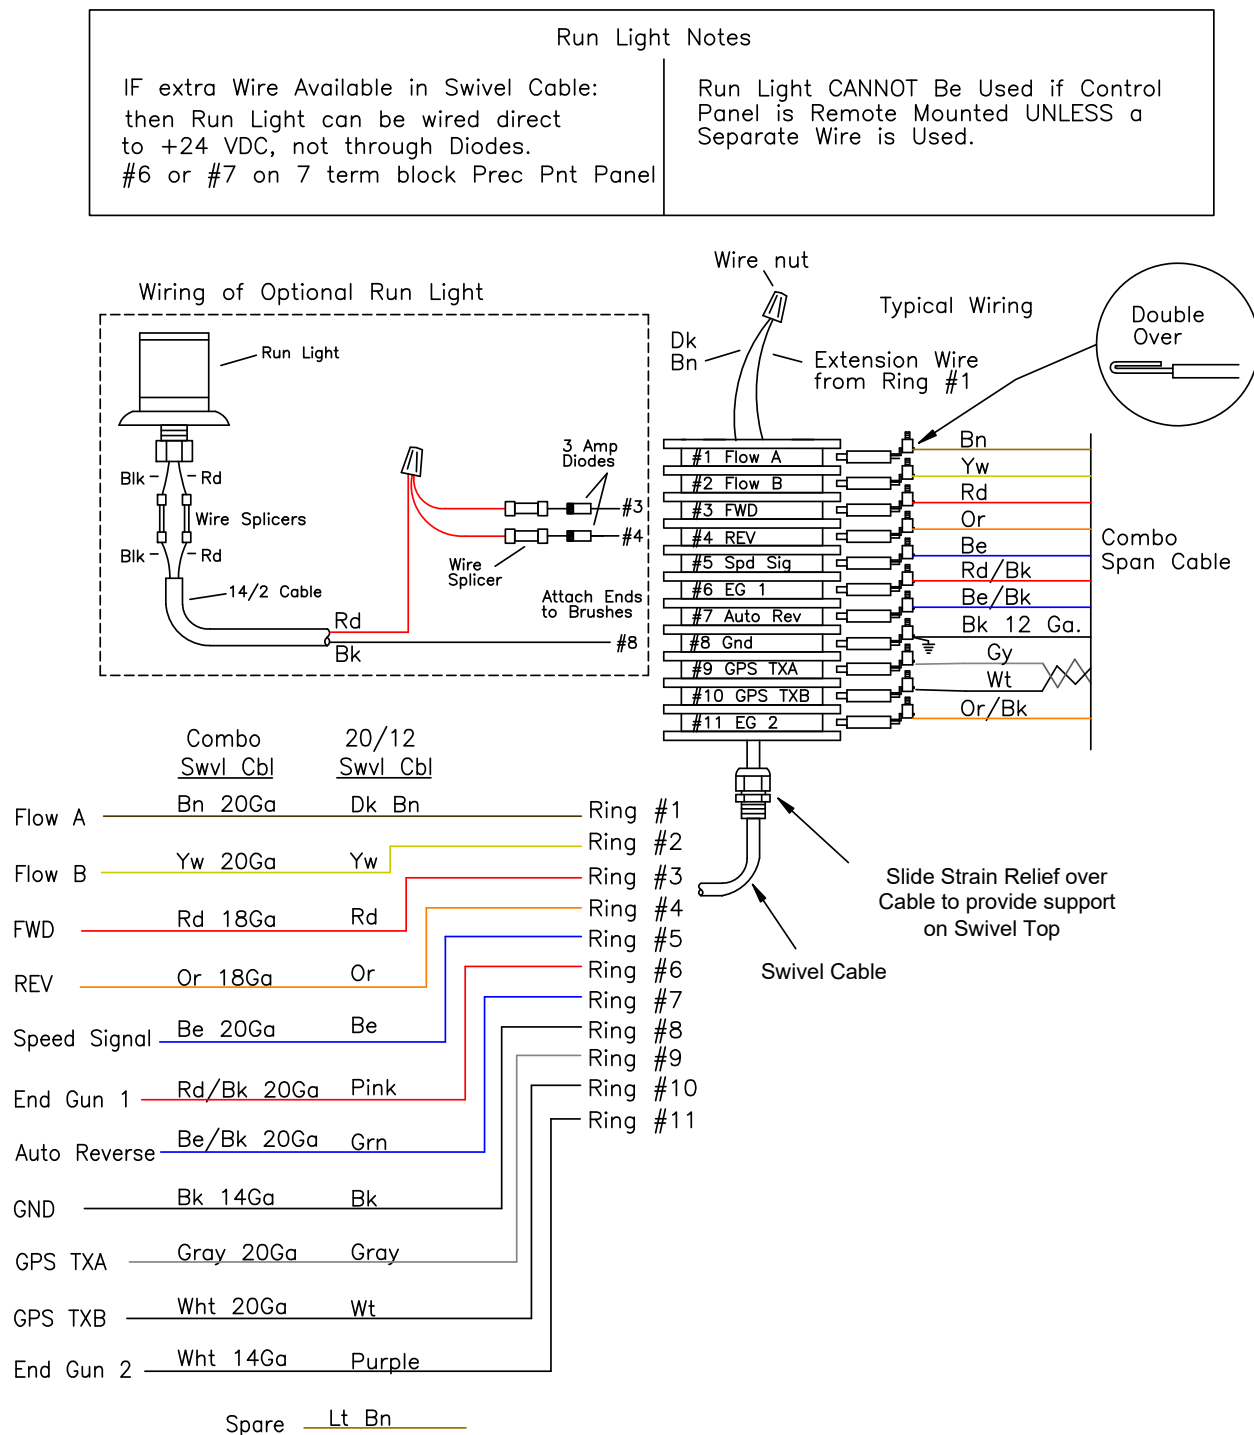

Figure 210. Collector Ring Wiring with GPS.
11.6 Collector Ring Wiring with GPS Position Sensor (Figure 210)